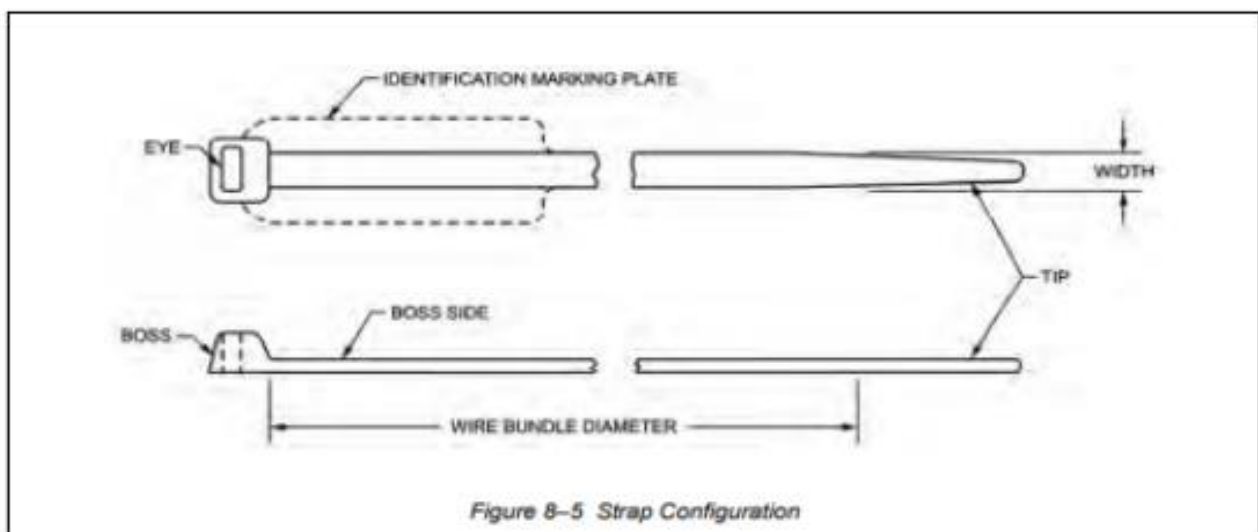

Figure 8-5 Strap Configuration
21. These are adjustable, lightweight, flat plastic straps used for tying and supporting cable assemblies and wire bundles. The strap configuration is shown in Fig 8-5. The straps are of two types:
- a. MS3367 cable securing strap shown by the bold lines in Fig 8-5 and;
- b. MS3368 identification and securing strap illustrated by the broken lines in Fig 8-5. These straps are available either in black or natural colour.